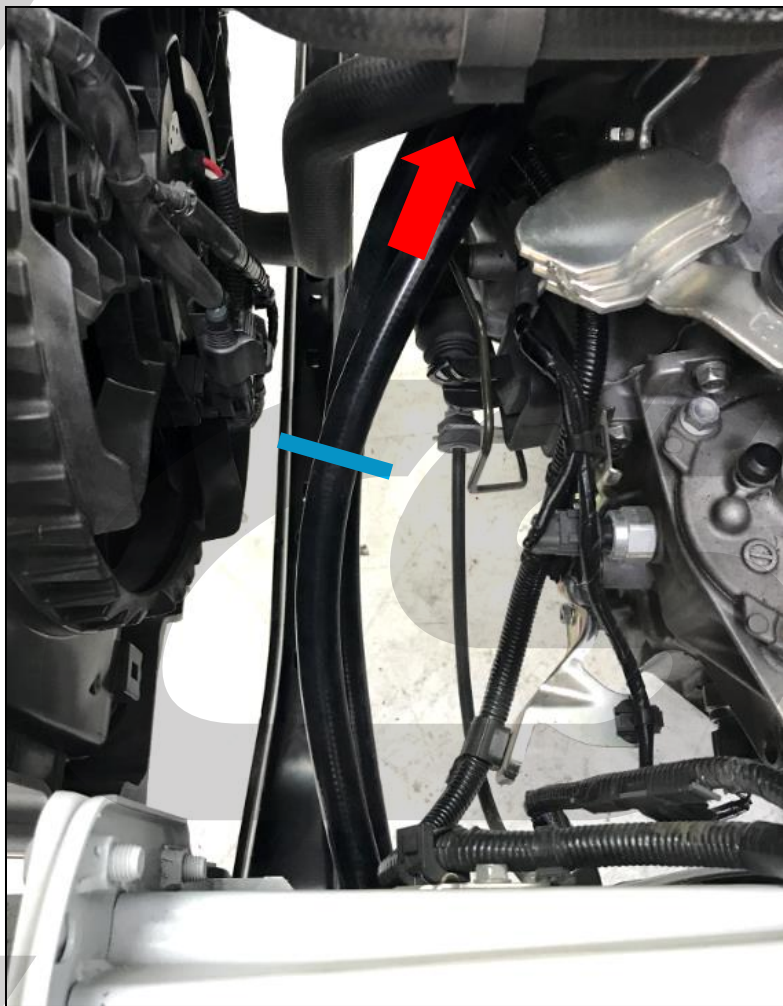

Figure 5d
- h) **Route the hose from the PCV valve to the OCC.** Route the hose under the coolant hose as shown in **Figure 5d**.
- j) **Using a razor knife or large scissors, cut the hose that was just installed in the approximate location shown with blue line in **Figure 5d**.**